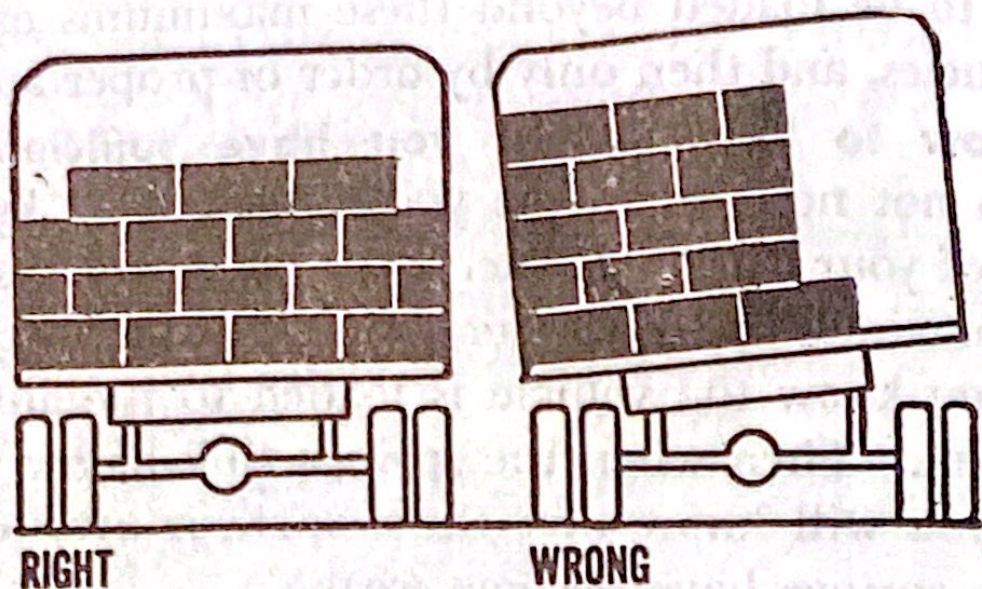

Figure 36. Proper and improper loading.
(1) Heavy supplies should be placed at the bottom of the load and evenly distributed throughout the body of the truck.
(2) The cargo should be carefully built up so as to avoid shifting (fig. 36).
(3) If your load is too high, it may cause swaying and danger of overturning, and will make the vehicle hard to handle. Avoid this by keeping the load low.
(4) If your vehicle is not covered, place a tarpaulin over the cargo as a protection against sun, dust, or rain.